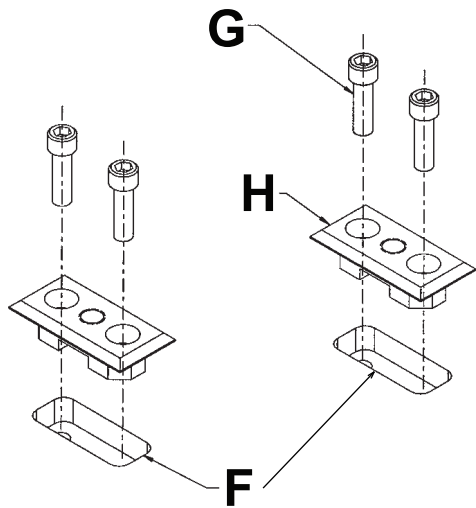

Figure 3 – Cut recessed openings over locating holes
3. Cut 1" x 2-1/2" x 9/16" deep recessed openings (F) into the floor centered over the locating holes (Figure 3).